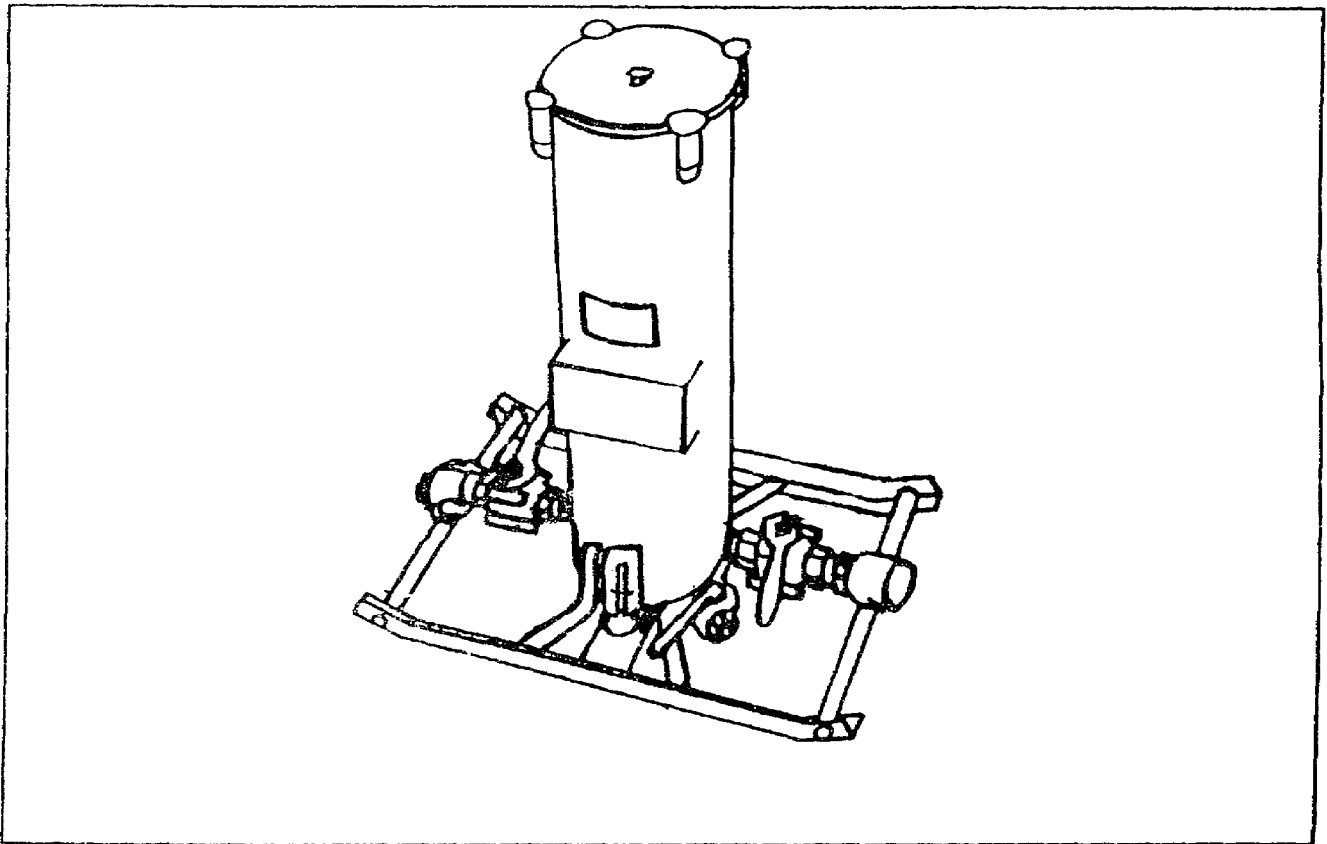

Figure 1-10. Filter/separator
Situation: You are a petroleum management supervisor. You are visually inspecting filter/separators of various gallons-per-minute capacity before assigning them to operators for use. Use this situation and Figure 1-10 to answer questions 1 through 4.
1. You examine the filter/separator shown in Figure 1-10. This filter/separator is which of the following types?
2. The skid upon which the filter/separator shown in Figure 1-10 is mounted is made of what kind of metal?
3. Refer to Figure 1-10. To check the fuel inlet and outlet valves, you look at what part of the filter/separator's tank?
4. You use the filter/separator shown in Figure 1-10 for which of the following purposes?
1.	<p>A. 15 GPM.</p> <p>Figure 1-10 shows the 15-GPM filter/separator, which is also shown in Figure 1-1. (Page 1-3, Figure 1-1)</p>